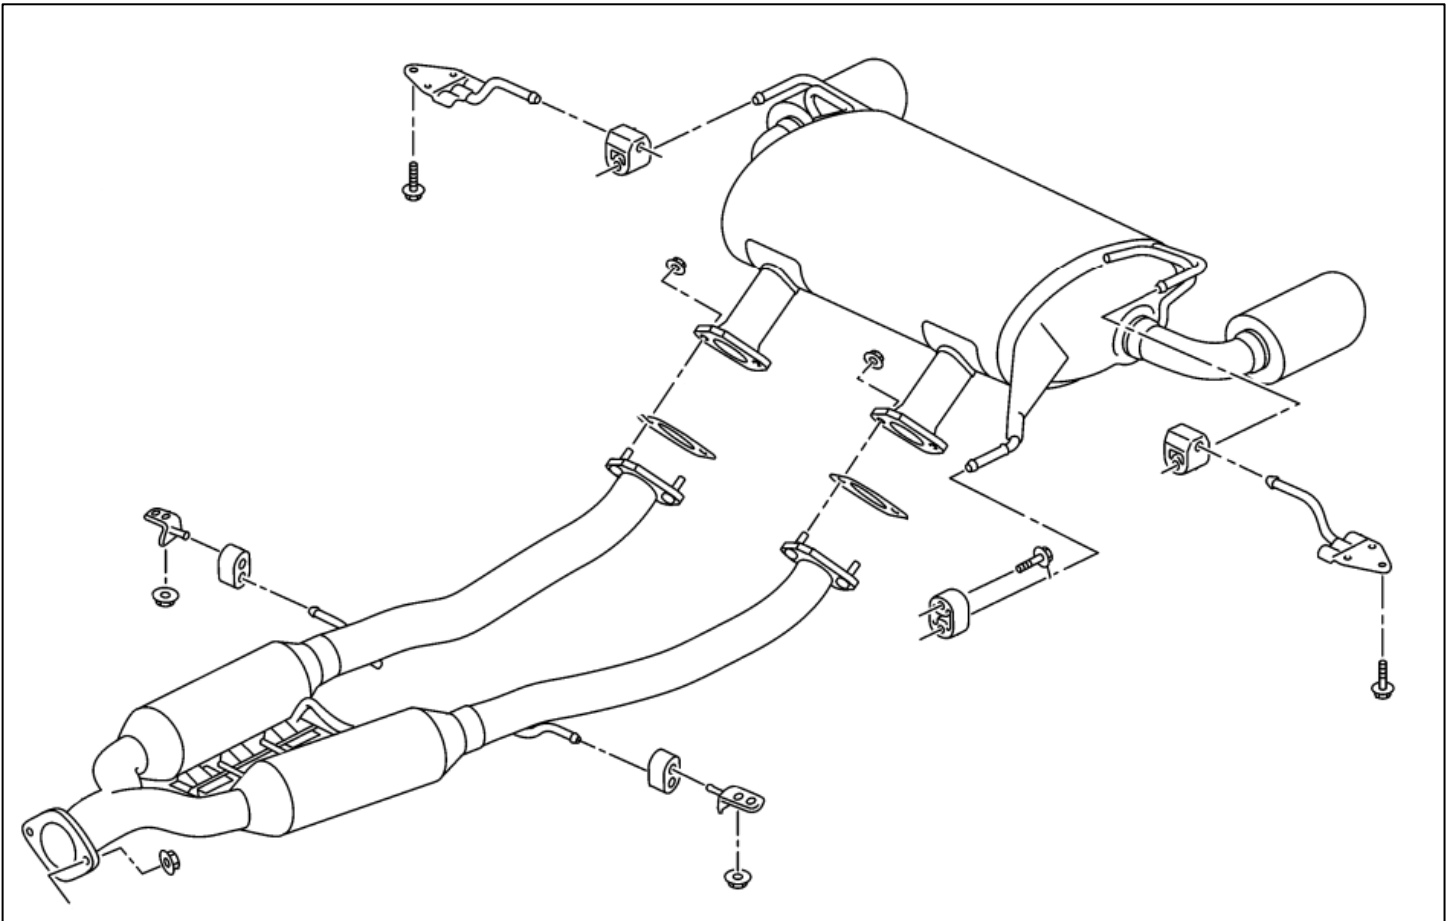

Figure 1
3. Remove the OE Catback Exhaust System but leave the Exhaust Hangers. If you are replacing the Y-Pipe, do this at this point as well. Using a Rust Penetrant on all exhaust hardware to help easily remove hardware. *Figure 1.*